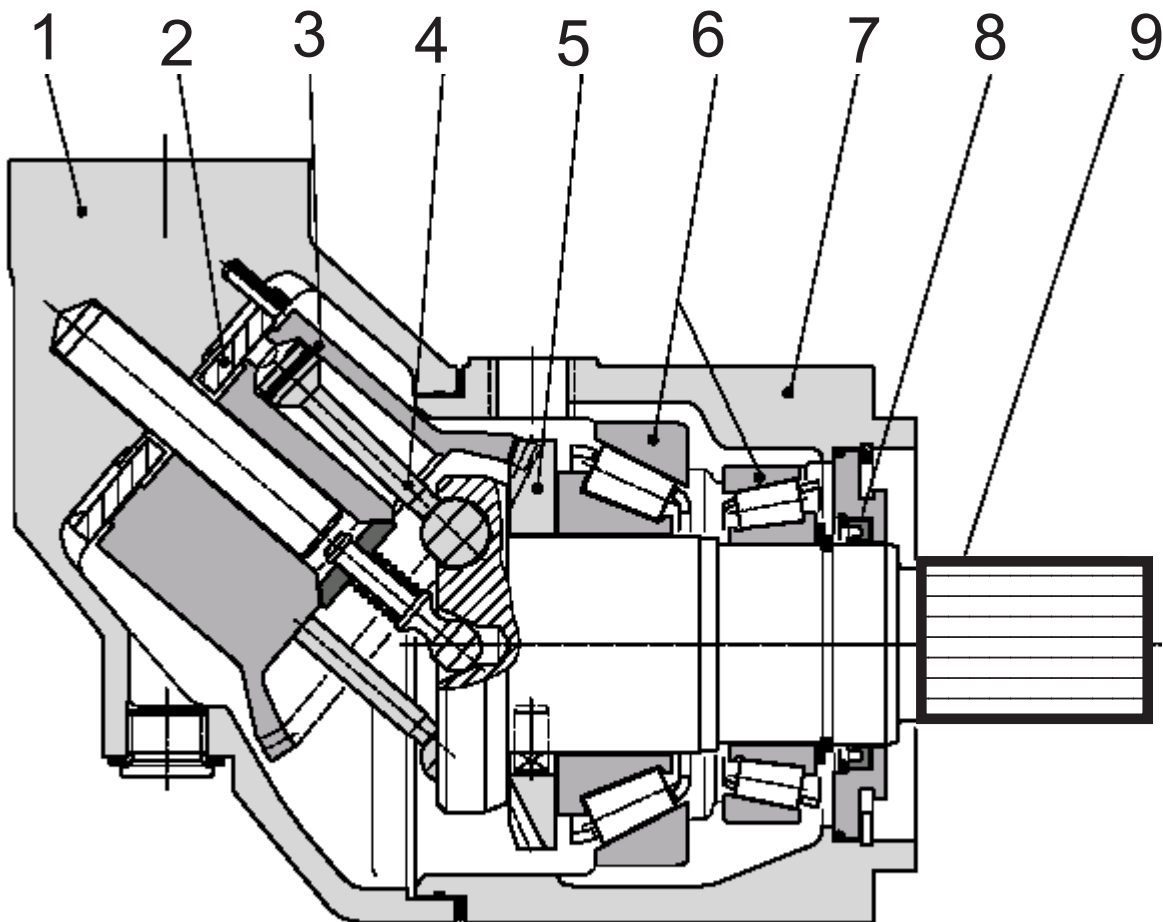
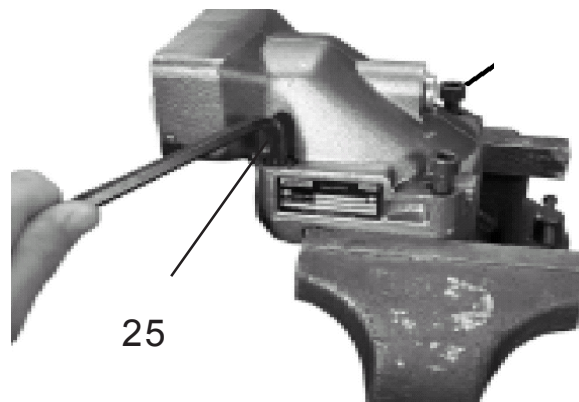

Figure 1
Figure 2
The Motor P/N 02979881 is Spherical Piston design. This motor is used on the Rotary Head. This is a high Torque Motor, with heavy duty roller bearings. See Figure 1 below for component location.
2. Remove Barrel Housing. Clamp Motor in a vise as shown in figure 1. There are 4 bolts (item 25) located on top of the Barrel Housing Assembly (item 1). Remove these four bolts. Lift Barrel Housing (item 1) as shown in Figure 2. Use caution to make certain the valve plate (Item 2) doesn't fall out when lifting the Barrel Housing off. By lifting straight up you should be able to use your finger to make certain the valve plate (item 2) does not fall out and get damaged. Make a note of which side of Valve plate is up and which side is down, this will be important during reassembly.